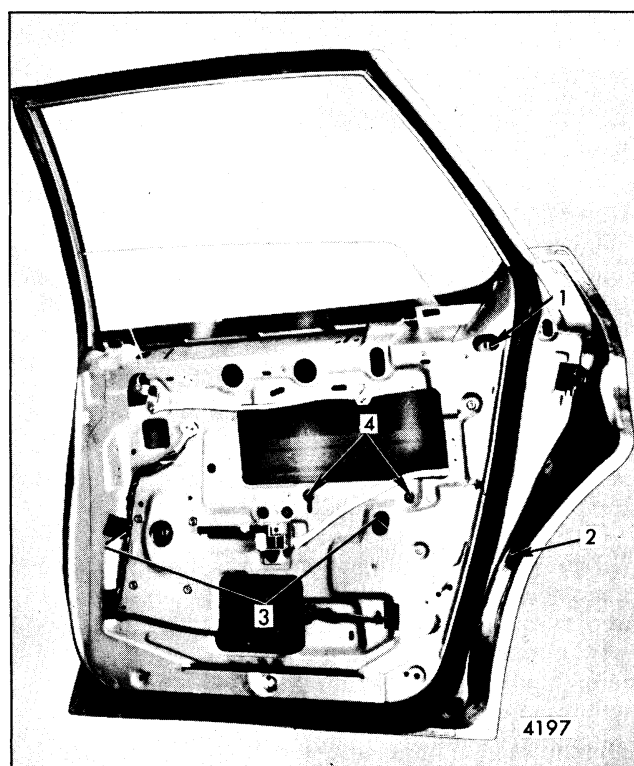

Fig. 5-130-Rear Door Window Removal and Adjustments - "B" Closed Styles
Adjustments have been provided to relieve a binding door glass due to misalignment of the glass run channel ("1" and "2", Fig. 5-130). In addition, the door window inner panel cam is adjustable which can correct a rotated (cocked) rear door window ("4", Fig. 5-130).
2. Remove rear glass run channel upper and lower attaching bolts ("1" and "2", Fig. 5-130) and remove run channel from door.
3. Partially lower rear door window, remove lower sash channel cam to glass attaching stud nuts ("3", Fig. 5-130). Press lower sash channel cam inboard to disengage from attaching studs and lower window regulator to full-down position.